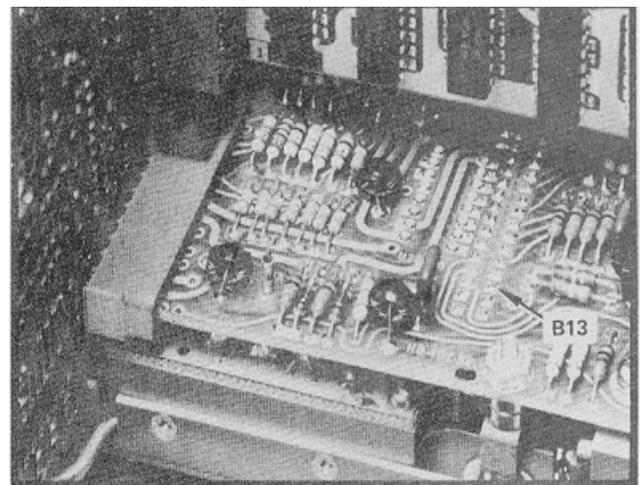

Fig. 4-5. Location of B13 on J2210.
- j. Use a shorting strap to short pin B13 of J2210 (Fig. 4-5) to ground. (Pin B13 and pin 13 of the decoupling circuit board are connected together.)